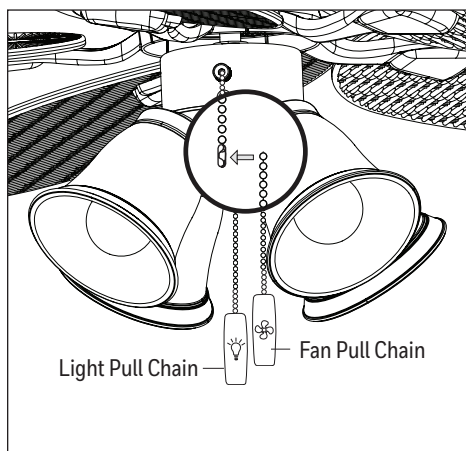

Figure 7.1
1. The fan pull chain has four positions to control fan speed. One pull is high, two is medium, three is low and four turns the fan off. The light pull chain has two positions to control the light, on and off (Figure 7.1).